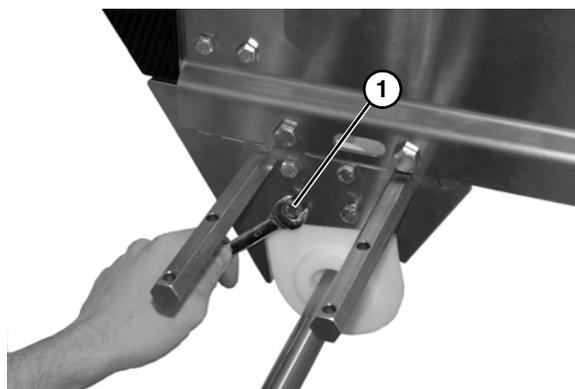

Figure 39
7. Remove the four head plate bolts (**Figure 39, item 1**) on both sides of conveyor.